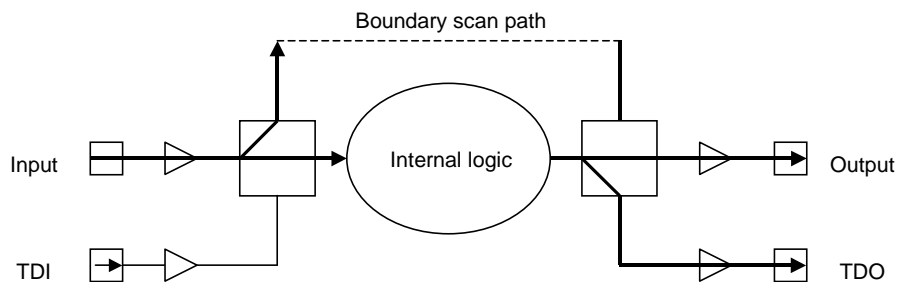

Fig. 23-9 Flow of Data While SAMPLE Is Selected
- The SAMPLE instruction is used to monitor the I/O pad of an IC. While SAMPLE is monitoring the I/O pads, the internal logic is not disconnected from the I/O pins of an IC. This instruction is executed in the Capture-DR state. A main function of SAMPLE is to read values of the I/O pins of an IC at the rising edge of TCK during normal functional operation. Fig. 23-9 shows the flow of data while the SAMPLE instruction is selected.